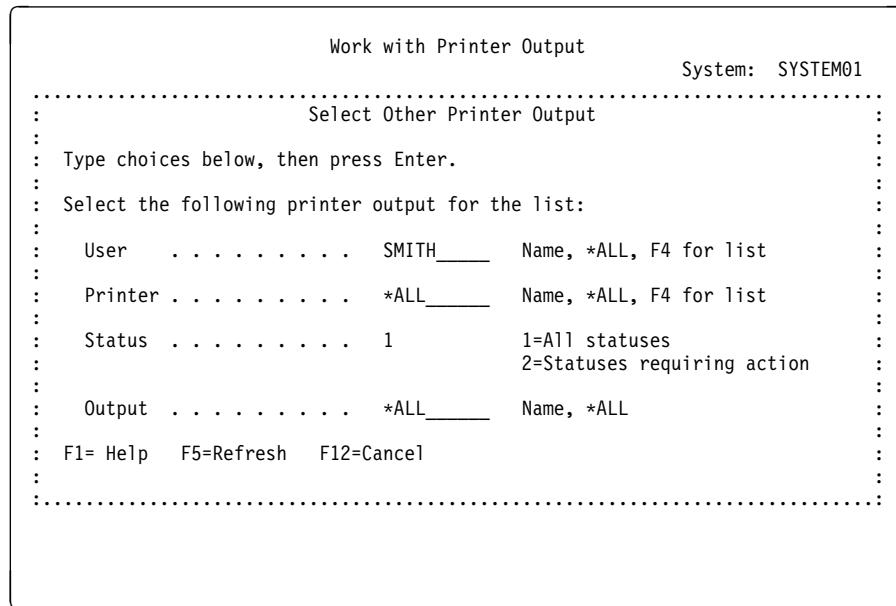

Figure 3-3. Select Other Printer Output Window
1. On the Work with Printer Output display, press F14 (Select other printer output). Figure 3-3 on page 3-4 shows the Select Other Printer Output window.